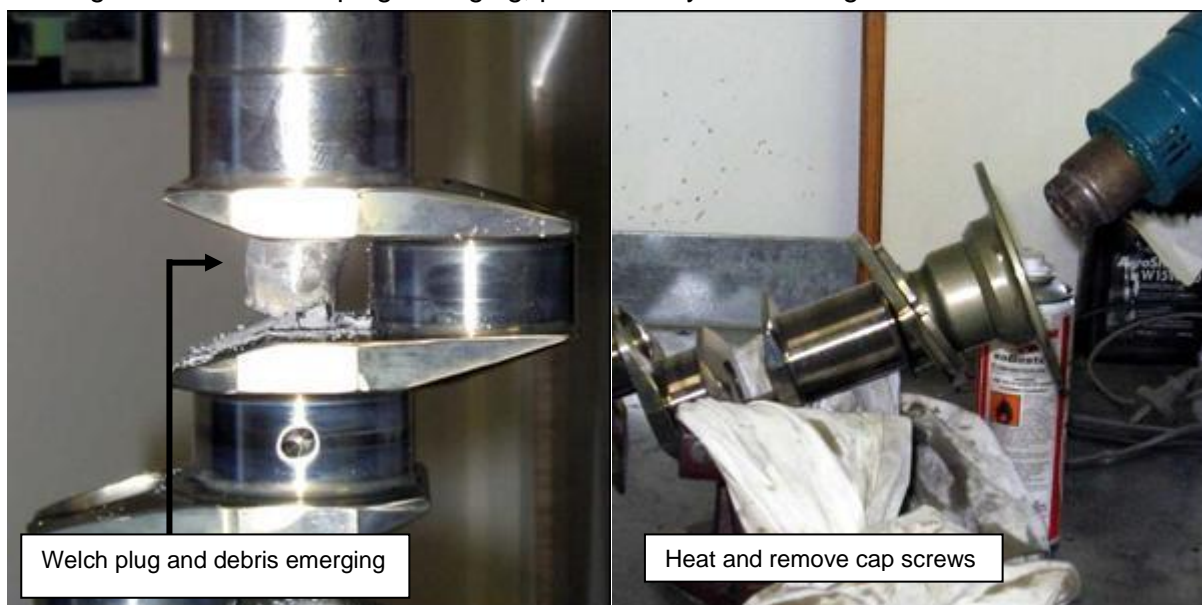

Figure 62 – Welch Plug & Propeller Flange Removal From Crankshaft
- Using a long drift, punch the rear welch plug down until it can be removed from between the rear crank throws. Figure 62 shows the plug emerging, preceded by some sludge.